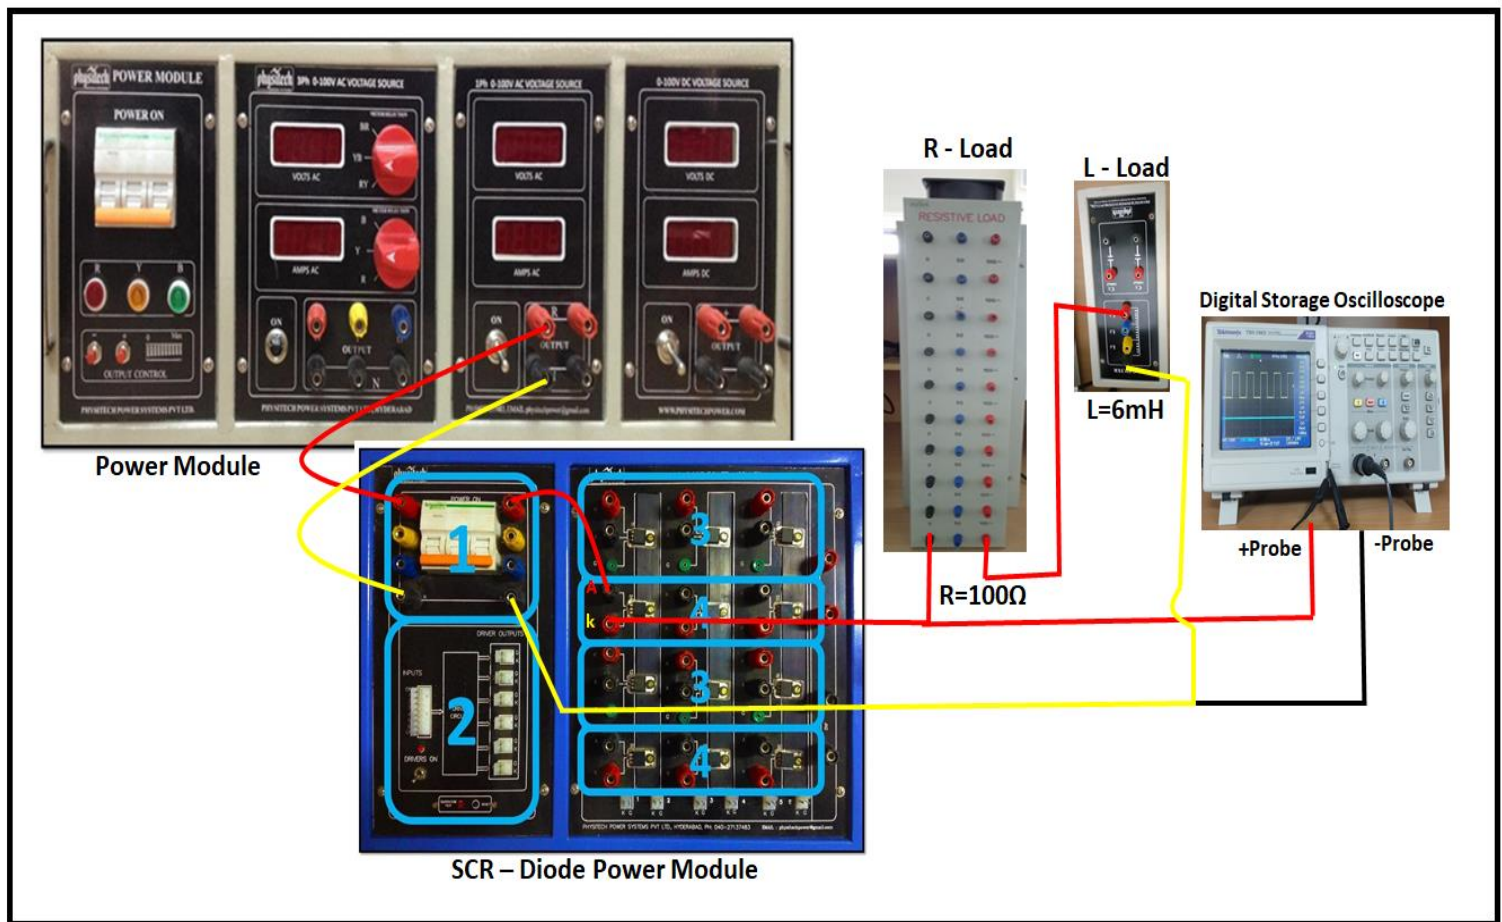

Fig.2
1. Connect the circuit as shown in Fig.2 ($R=100\Omega$, $L=6\text{mH}$)